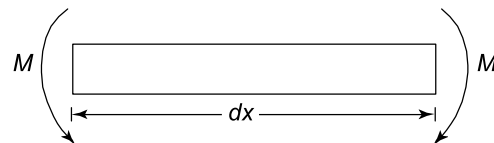
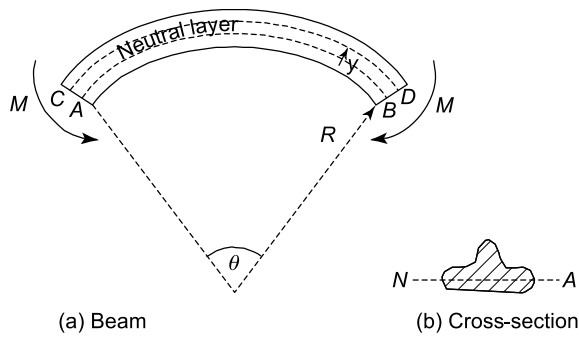

Figure 10.1
Figure 10.2
If a beam of symmetrical cross-section is subjected to a bending moment M , then stresses due to bending action will occur. This can be illustrated by the horizontal beam of Figure 10.1, which is of uniform cross-section. In pure or simple bending, the beam will bend into an arc of a circle as shown in Figure 10.2.
Now in Figure 10.2, it can be seen that due to these couples M , the upper layers of the beam will be in tension, because their lengths have been increased, and the lower layers of the beam will be in compression, because their lengths have been decreased. Somewhere in between these two layers lies a layer whose length has not changed, so that its stress due to bending is zero. This layer is called the **neutral layer** and its intersection with the beam's cross-section is called the **neutral axis (NA)**. Later on in this chapter it will be shown that the neutral axis is also the centroidal axis described in Chapter 9.